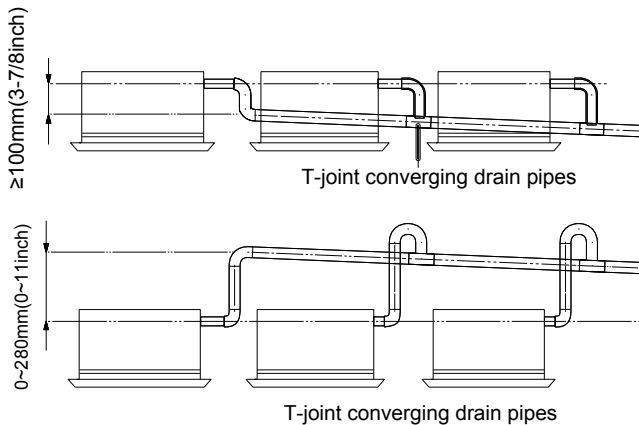

Fig. 4.21
- (3). When unifying multiple drain pipes, install the pipes as Fig. 4.21. Select converging drain pipes whose gauge is suitable for the operating capacity of the unit.(take the cassette type unit for example)